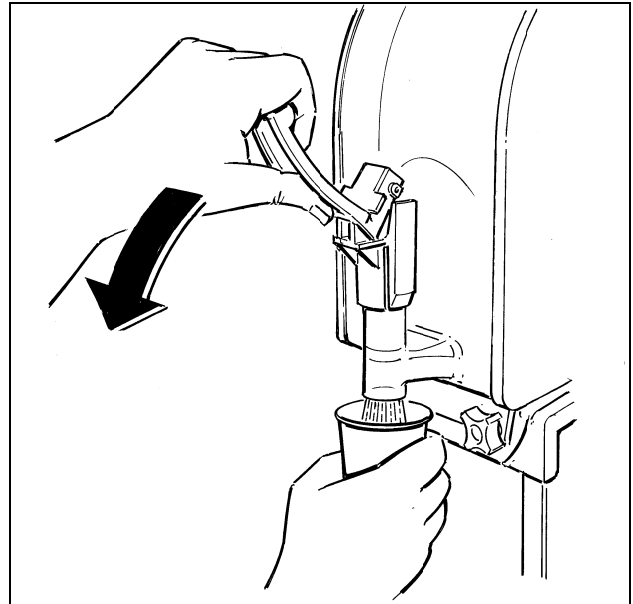

Fig. 15
a) To dispense the product, position the cup under the tap and pull the dispensing lever (see figure 15).